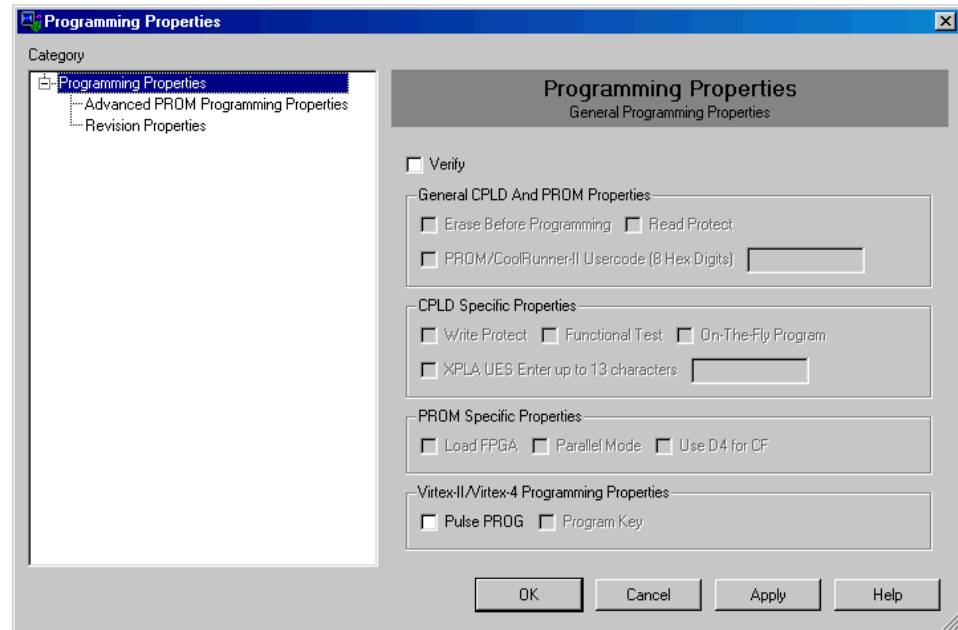

Figure 7-8: Program Options for XC3S200 Device
- The Program Options Dialog Box appears (see Figure 7-8).